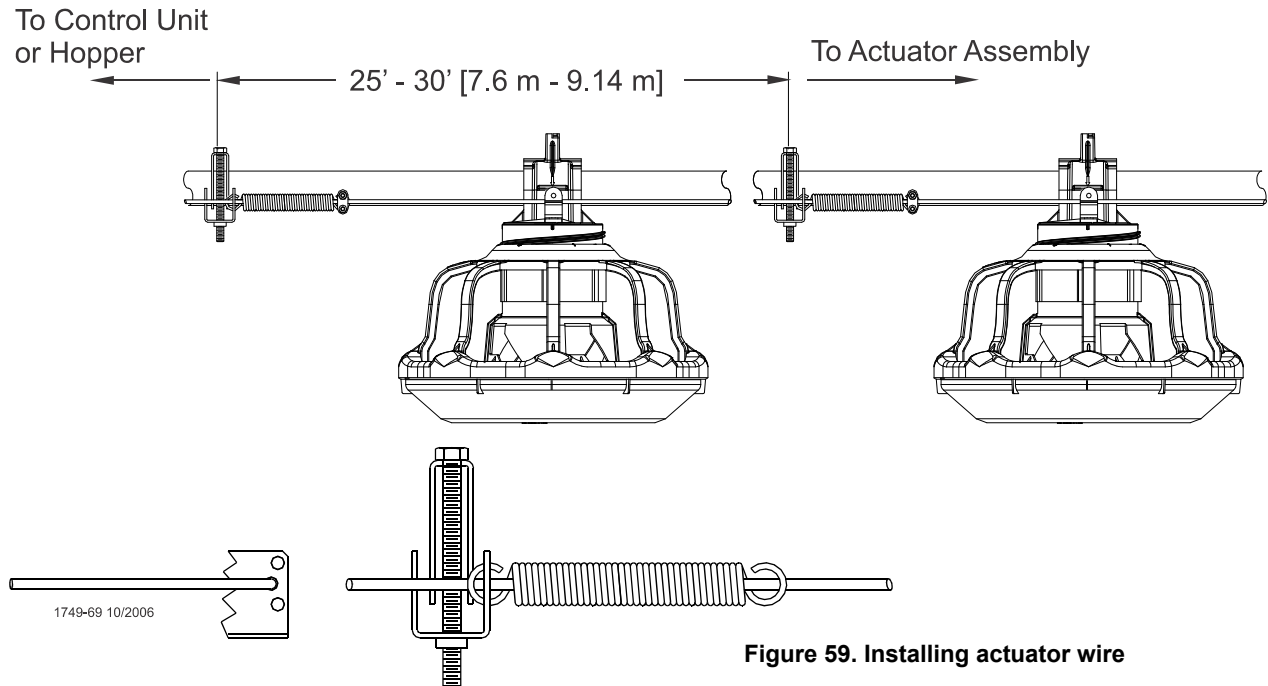

Figure 59. Installing actuator wire
1. Beginning at the terminal spring bracket or if a pusher pan is used start at that spring bracket. Slide the end of the actuator wire through the two holes in the bracket and through the center of the end spring, **see figure 59**